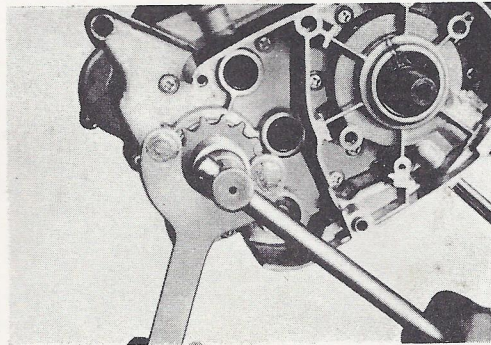

Fig. 3-13-2
- b. Keep the drive, sprocket from turning, with the flywheel magneto holding tool and loosen the sprocket nut. (Fig. 3-13-2)